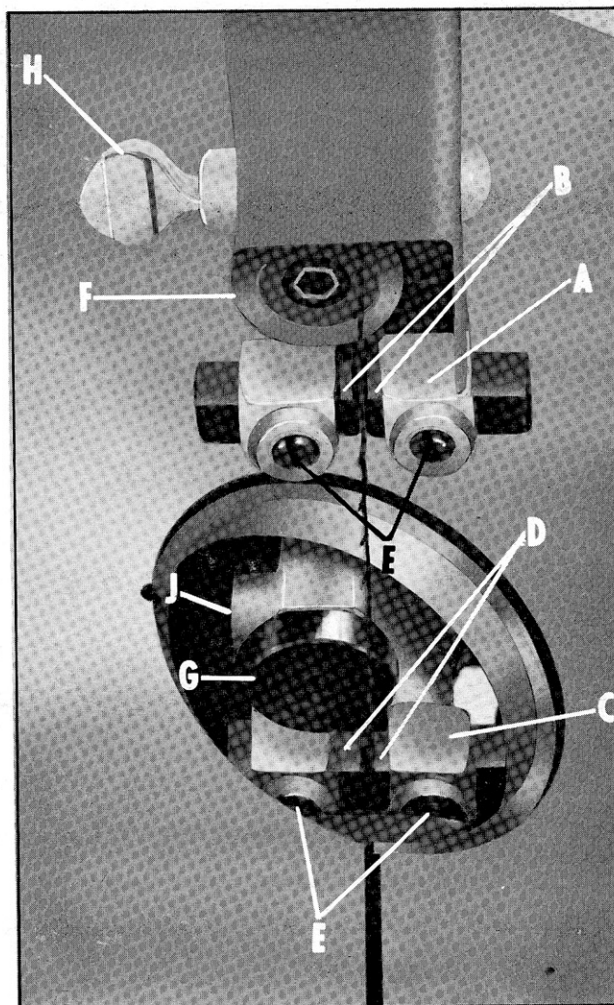

Fig. 19
1. The upper bracket (A) Fig.19, is held to the underneath of the guide post by a cap screw. Loosen the cap screw and move the guide bracket (A) in or out until the front edge of the guides (B) are just behind the "gullets" (bottom of saw teeth).
2. The lower bracket (C) Fig.19, is mounted directly on the base casting by a square head bolt. Loosen the bolt and move the guide bracket (C) in or out until the front edge of the guides (D) are just behind the "gullets" (bottom of the saw teeth).
3. The guides (B) and (D) Fig.19, are held in the guide brackets with set screws (E). Loosen set screws (E) and adjust guides as close as possible to the side of the blade being careful not to pinch the blade.
The support bearings (F) and (G) Fig.19, prevent the blade from being pushed too far to the back which could damage the set in the saw teeth. The support bearings (F) and (G) should be set about 1/64" behind the blade, as follows:
1. Loosen thumb screw (H) Fig.19 and move upper support bearing (F) 1/64" behind the back edge of the blade and tighten thumb screw (H).
2. Loosen set screw (J) and move lower support bearing (G) 1/64" behind the back edge of the blade and tighten set screw (J).